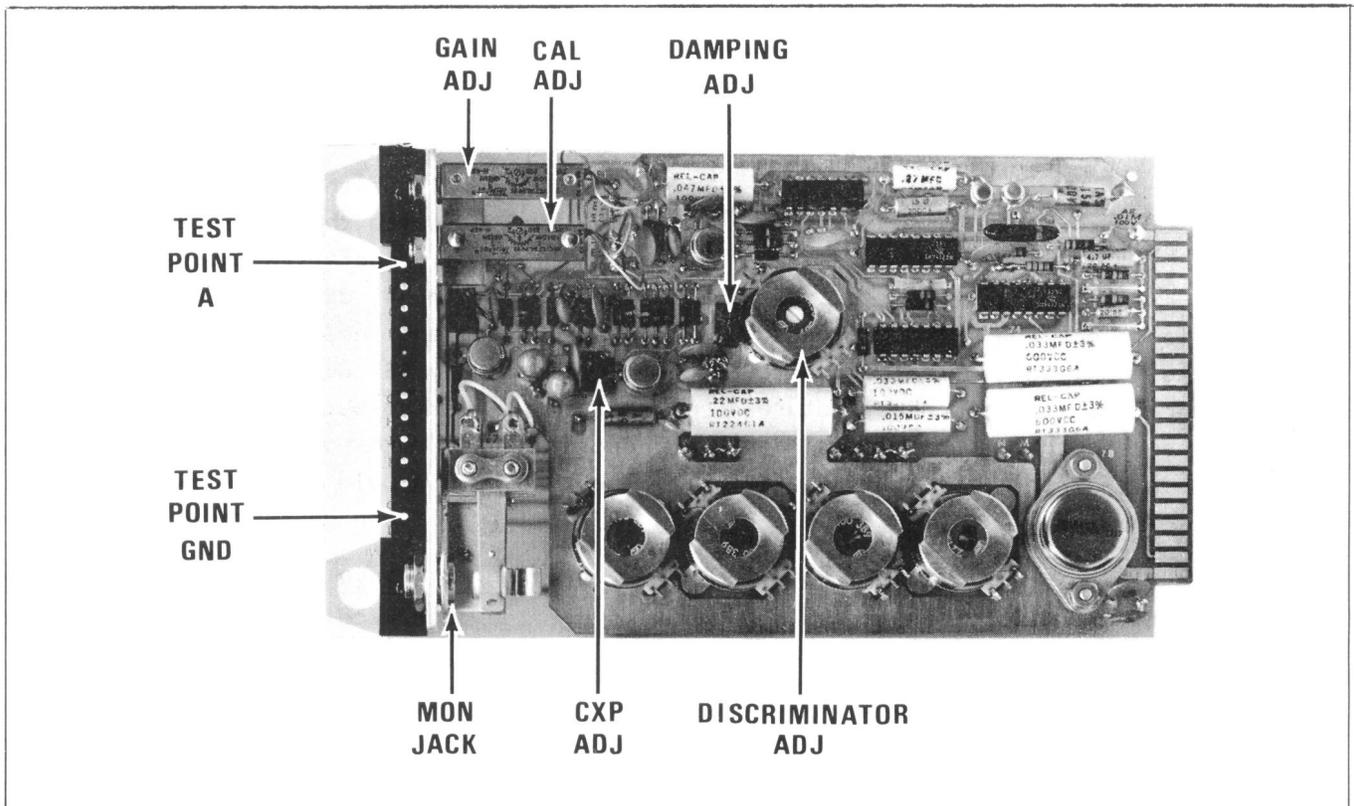

Figure 30 - Card 001476—Component Arrangement
4. Using a nonmetallic adjustment tool, carefully adjust the DISCRIMINATOR ADJ slug (Figure 30) for a minimum reading, typically 0.1 VDC.
5. With the screwdriver adjust the CXP ADJ trimpot (Figure 30) until the console's test meter reading becomes erratic. This is the carrier presence threshold.
3. If undershooting occurs, slightly rotate the DAMPING ADJ potentiometer (Figure 30) clockwise; if overshooting occurs, slightly rotate the potentiometer counter-clockwise.